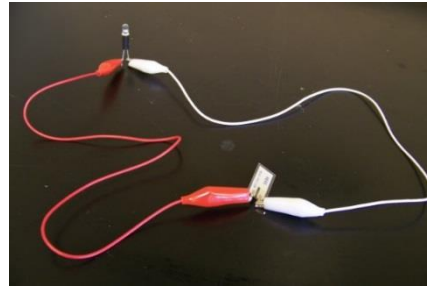

Figure 2. LED and piezoelectric polymer film connected by alligator clips
2. Connect one LED to a piezoelectric polymer film so that the long wire of the LED is connected to one leg of the piezoelectric material, and the short wire on the LED is connected to the other leg of the piezoelectric film. Use the supplied alligator clips to make these connections (Figure 2).